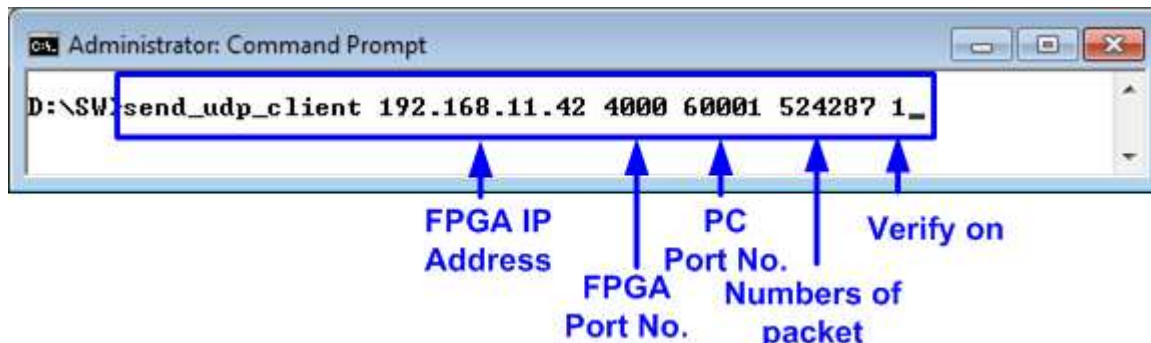

Figure 4-14 Example "send_udp_client" command when enable verification
- Open “command prompt” on PC, and run “send_udp_client” test application by setting mode = 1 to generate 32-bit increment data. The example command is shown in Figure 4-14.